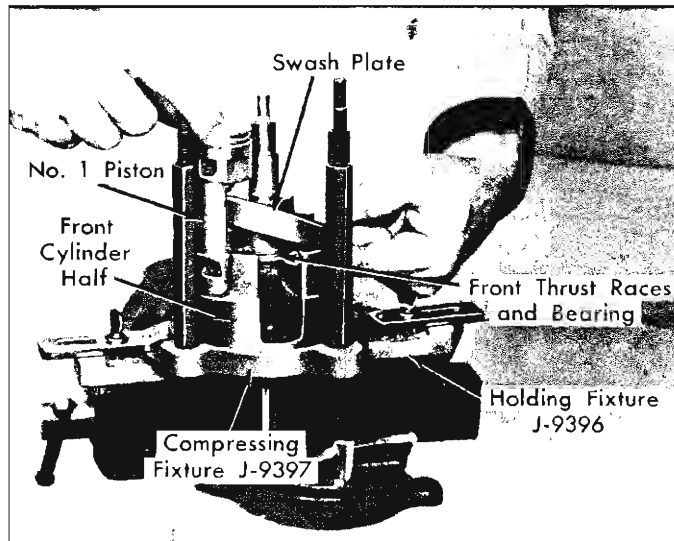

Fig. 43—Installing Piston, Front Ball and Seat and Rear Ball
8. Rotate the shaft and wobble plate until the high point of the wobble plate is directly over the cylinder bore previously designated as No. 1. Lift up slightly on the shaft and wobble plate assembly, insert the front (notched) end of the No. 1 piston into the cylinder bore, and at the same time, place the front ball and seat and the rear ball only over the wobble plate (fig. 43). Hold front thrust bearing pack tight against wobble plate hub while lifting shaft.